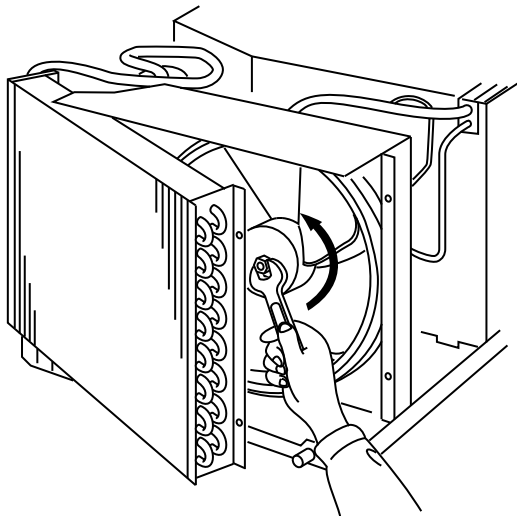

Fig. 13
- (2) Loosen a nut holding propeller fan on motor shaft using hex. wrench. (Fig. 13)